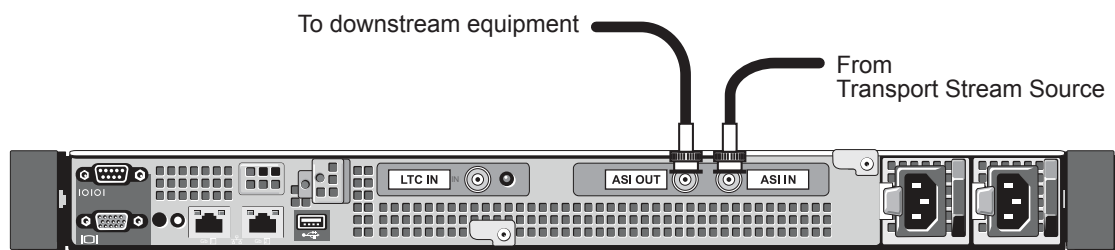

Figure 6 NWE-TS (Dell R330) — Cabling for Transport Stream Devices
1. Locate the **ASI IN** BNC on the NWE-TS rear panel. Refer to **Figure 6** for the BNC location.
1. Locate the **ASI OUT** BNC on the NWE-TS rear panel. Refer to **Figure 6** for the BNC location.